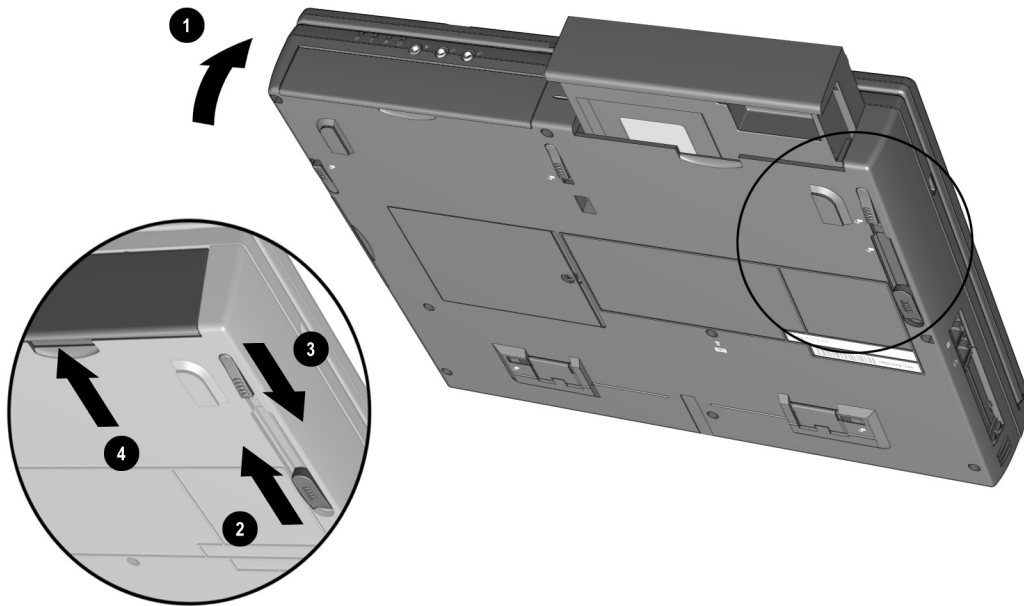

Figure 5-17. Removing a Hard Drive Assembly from the MultiBay
2. Tilt the computer at an angle **1** so the bottom of the computer is accessible (Figure 5-17).